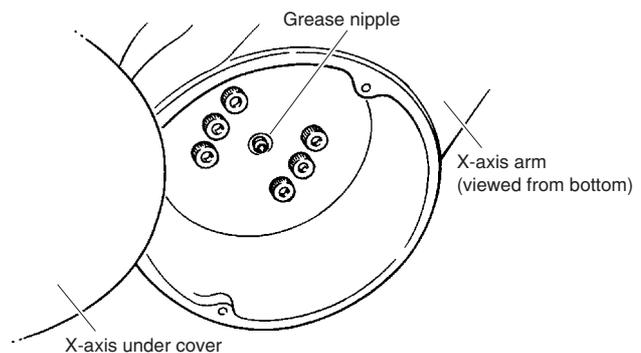

Fig. 5-72
- 8) Using the grease gun, pump the specified grease into the grease nipple located on the bottom of the X-axis arm. (See Fig. 5-72.)